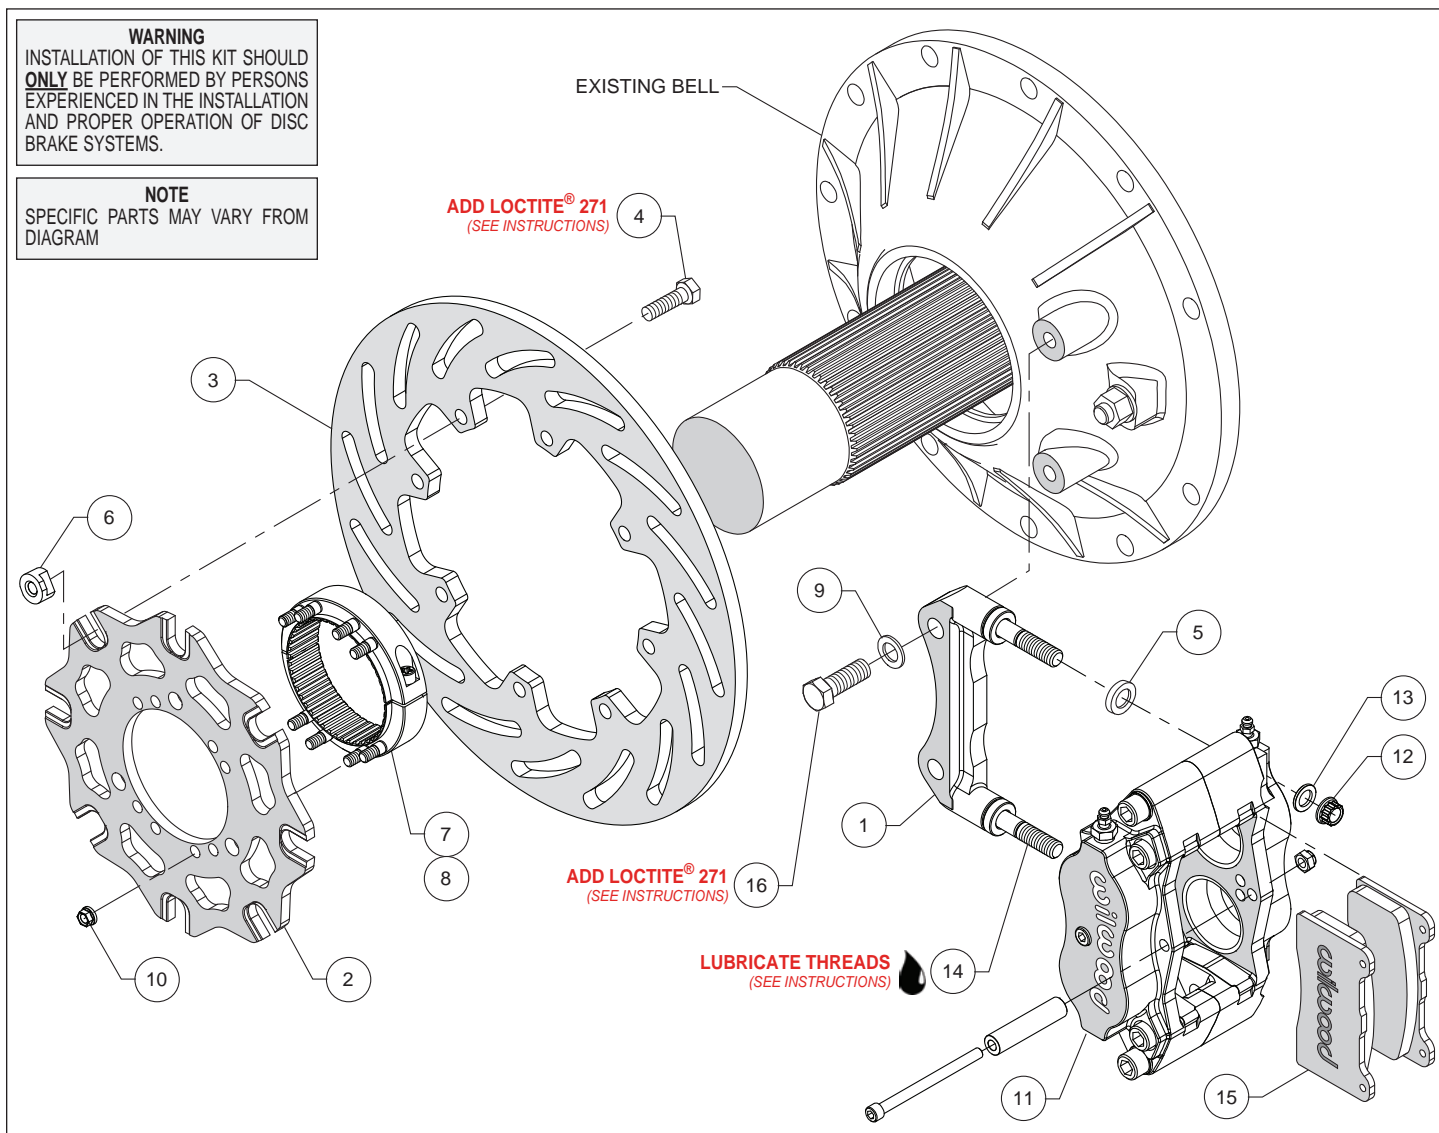

Figure 1. Typical Installation Configuration
**Assembly Instructions** (numbers in parenthesis refer to the parts list, and Figure 1 on the preceding pages): **CAUTION:** All mounting bolts must fully engage threaded holes.
- Orient the caliper mount bracket (1) as shown in Figure 1 and install using bolts (16) and washers (9). Temporarily tighten the mounting bolts. **NOTE:** The bracket must fit squarely against the mount bosses on the bell. Inspect for interference from casting irregularities, machining ridges, burrs, etc. Remove the bracket mounting bolts one at a time, apply red *Loctite*® 271 to the threads, and torque to 60 ft-lb.
- Orient the rotor adapter (2) and the rotor (3), as shown in Figure 1, and attach using bolts (4), and t-nuts (6), Figure 1. Apply red *Loctite*® 271 to the bolt threads before installing. Finger tighten. After all t-nuts have been installed, torque bolts in an alternating sequence to 220 in-lbs. Please refer to Wilwood's data sheet DS-669 (available at [www.wilwood.com/Pdf/DataSheets/ds669.pdf](http://www.wilwood.com/Pdf/DataSheets/ds669.pdf)) for complete t-nut bolt kit installation instructions. **NOTE:** Rotor adapter may be fix mounted to rotor (instead of floating mount) using customer supplied hardware.
- Orient the axle clamp assembly (7 and 8, pre-assembled) as shown in Figure 1 and install onto the rotor adapter (2) using nuts (10). Tighten nuts part way while still allowing clamp-to-adapter movement. The nuts will be torqued later, after aligning the rotor. **NOTE:** *The axle clamp should be positioned inside of the rotor as shown, not offset, or outside of the rotor adapter.*
- Lubricate the caliper mounting studs (14) with lightweight oil. Place one spacer (5) on each stud as shown in Figure 1. Mount the caliper (11) onto the bracket (1) using lock nuts (12) and washers (13), Figure 1. Temporarily tighten the lock nuts (12) and view the rotor through the top opening of the caliper. The rotor should be centered in the caliper. If not, slide the rotor/adapter assembly on the axle until the rotor is centered in the caliper. Tighten the clamp nuts first, locking the clamp to the axle. Torque nuts (10) to 140 **in-lbs**. Torque the caliper lock nuts (12) to 30 ft-lb.
- Remove the caliper center bridge pad retainer bolt, nut, and tube from the caliper. Insert the brake pads (15) into the caliper, with the friction material facing the rotor. Secure the brake pads in place with the center bridge pad retainer tube, bolt, and locknut. The locknut should be snug without play in the bolt or tube. Be cautious not to over tighten.